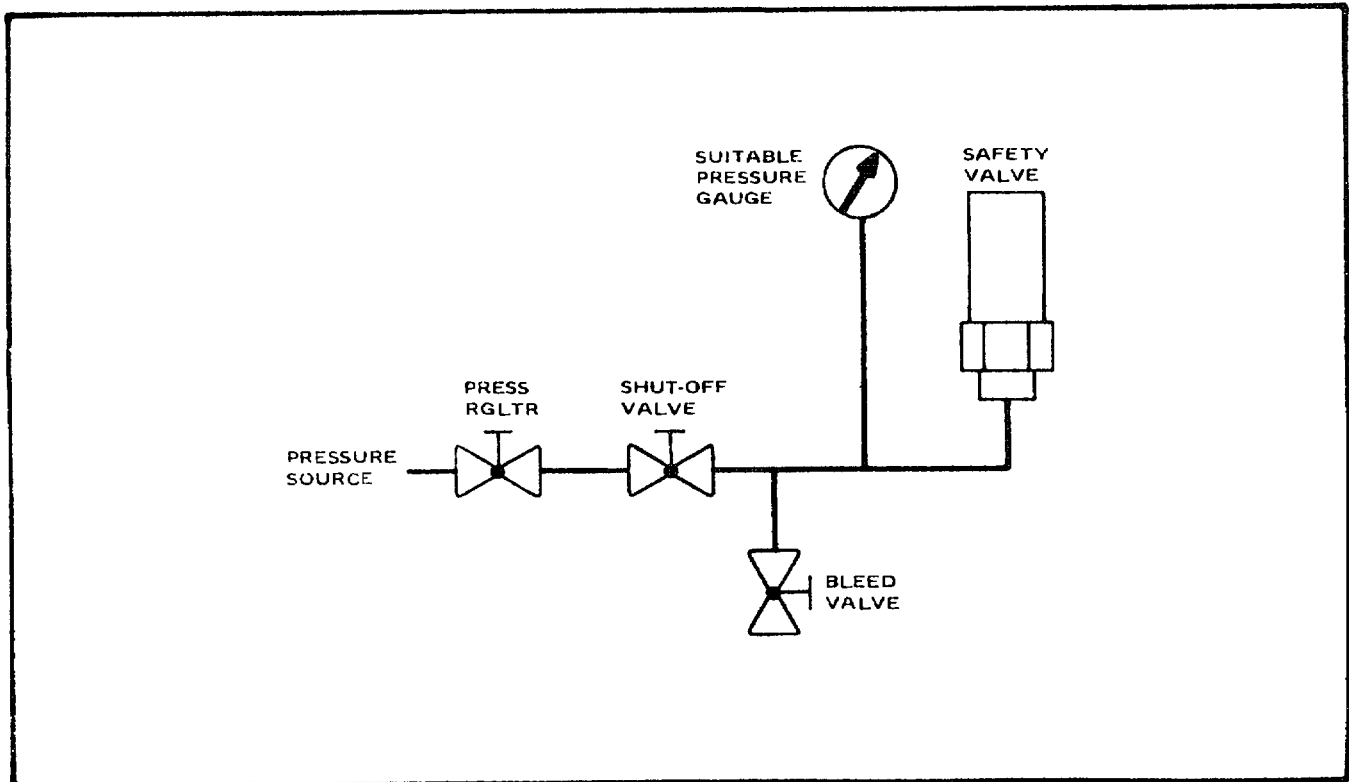

Figure 6-5. Typical Safety Valve Test Setup
(1) Test safety valves. Connect valve to be tested to a gauged and regulated 4,000 psig (27,580 KPa) air or nitrogen source. See Figure 6-5.